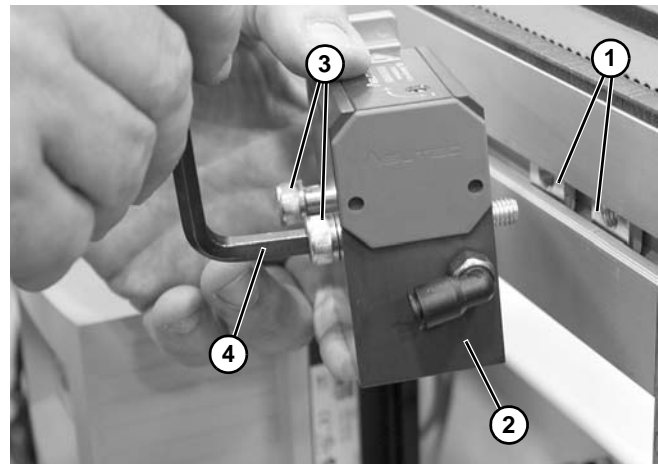

Figure 3
1. Install cam follower nuts (**Figure 3, item 1**) into conveyor channel.
2. Install pallet stop (**Figure 3, item 2**) to conveyor using socket head screws (**Figure 3, item 3**). Tighten screws with hex wrench (**Figure 3, item 4**).